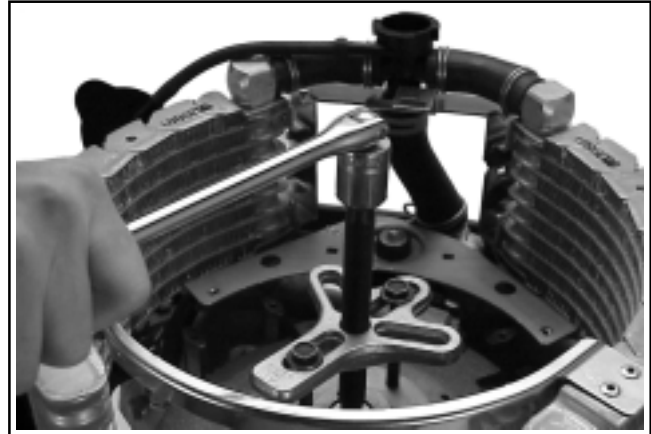

Figure 9-29. Removing Flywheel.
- Use a puller to remove the flywheel from the crankshaft. See Figure 9-29.